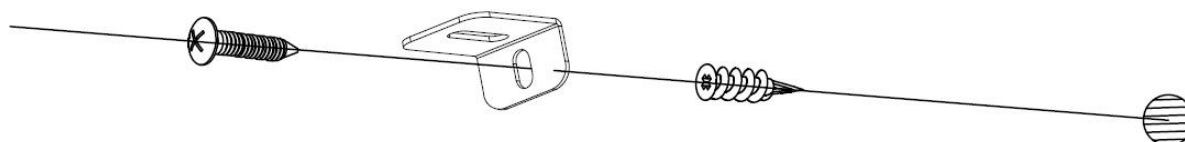

Fig 4-3
C. Install the plastic anchor **(B)** into the drywall, then install the screw **A** (supplied) into the hole of the **L-bracket** into the wall anchor to secure the fireplace from coming off the hooks. **(Fig 4-3)**